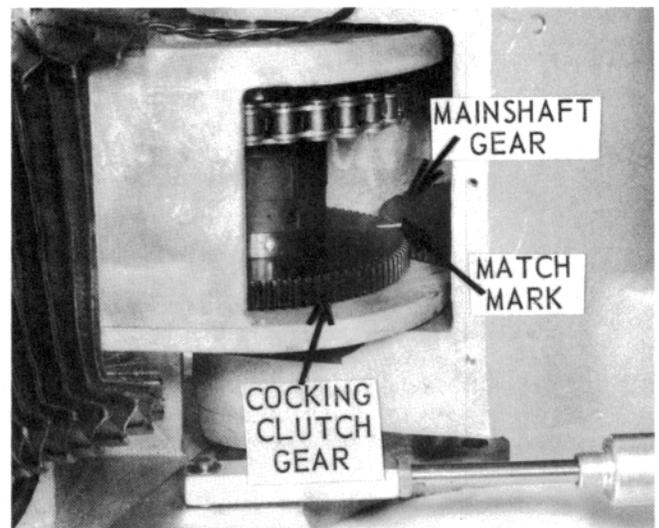

Figure 70 – Match Mark
- 6.1.6 Match mark the cocking clutch gear and mainshaft gear (see Figure 70). This permits gear to be correctly phased when reassembling.